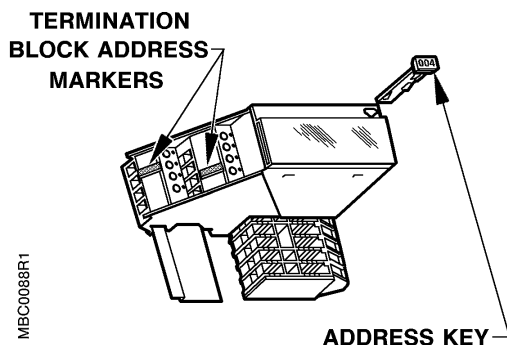

Figure 4. Addressing the PTM.
Each point module has an address key that provides a unique address in the field panel. A smaller address marker (Figure 4) also identifies the termination block should the point module and termination block become separated.
4. Insert the address key into the slot located at the top right-hand corner of the point module as shown in Figure 4.
5. Insert the smaller address marker to identify which termination block is used with the point module (Figure 4). If the point module and termination block are separated, compare the address key in the point module to the address marker on the termination block.